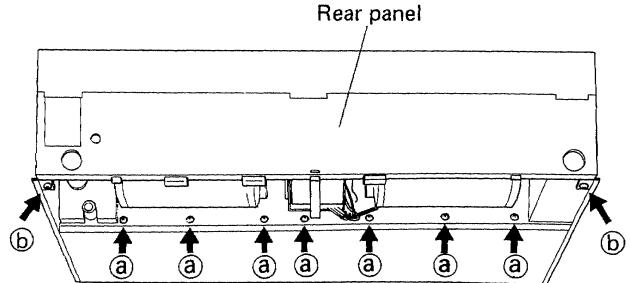

Fig. 9
- 6) Remove the seven screws ④ fixing the bottom plate and the partition plate.
- 8) Remove the two screws ⑤ to remove the rear panel. Fig. 9